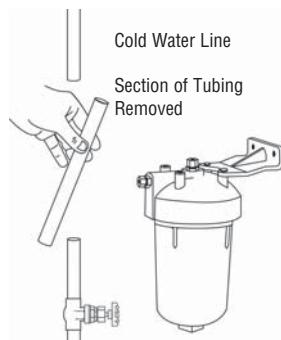

**Figure 5**
5. Measure down from the centerline of the filter inlet about 3" and mark the tube. From this mark, measure up 8" and mark the tube. This is the section of the tube to be removed. If necessary, because of tight quarters, additional tube can be cut away. (Figure 5)